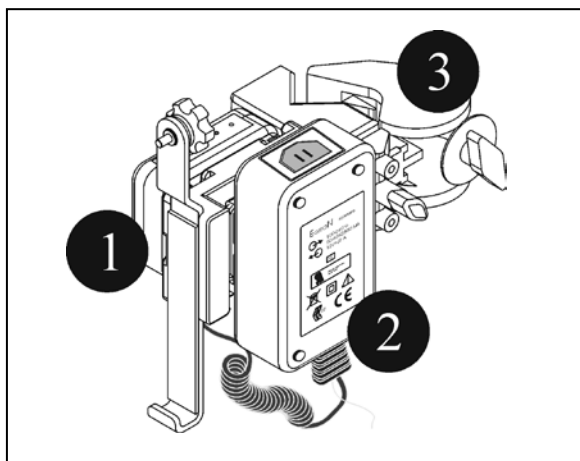

Figure 46. The Nurse Call Interface Kit
- Interface Adapter (1 in Figure 46, below)
- AC Adapter (2 in Figure 46, below)
- Mounting Clamp for Monitor (3 in Figure 46, below)